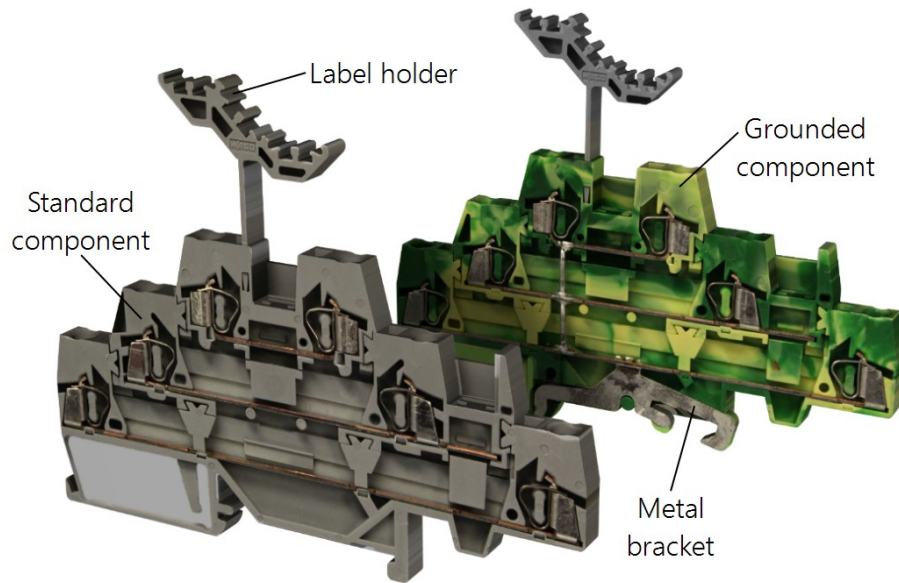

FIGURE 4-3. Standard (gray) and ground (green/yellow) components
Components designed to function as protective earth (PE) ground connections (typically colored in green/yellow) use the DIN rail as a common ground path. FIGURE 4-3 (p. 5) shows a standard component (gray) and a PE ground component (green/yellow). Note the metal bracket for the